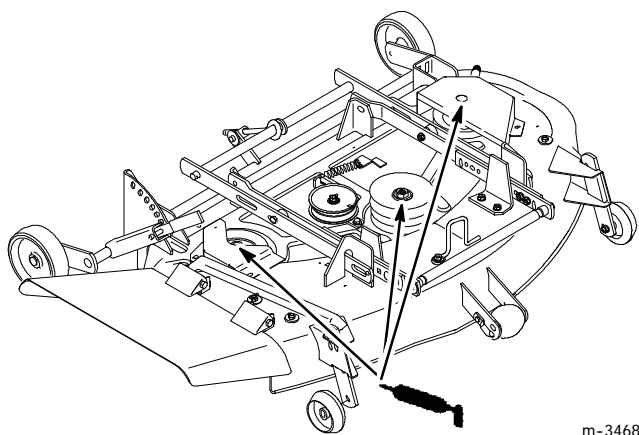

Figure 35
1. Lubricate the blade spindles (Fig. 35).